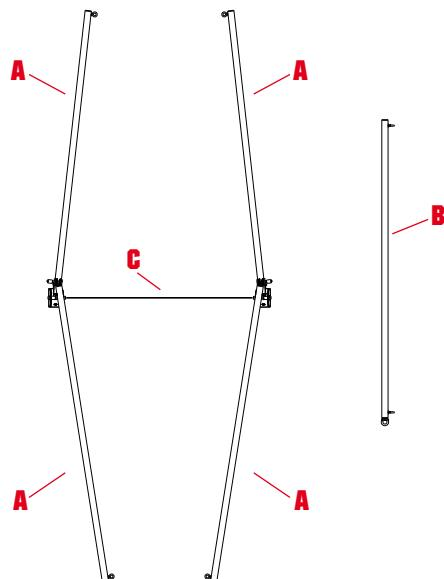

fig. 2
a) Arrange the side bars (A) and the top bar (B) on the ground - (fig. 2).